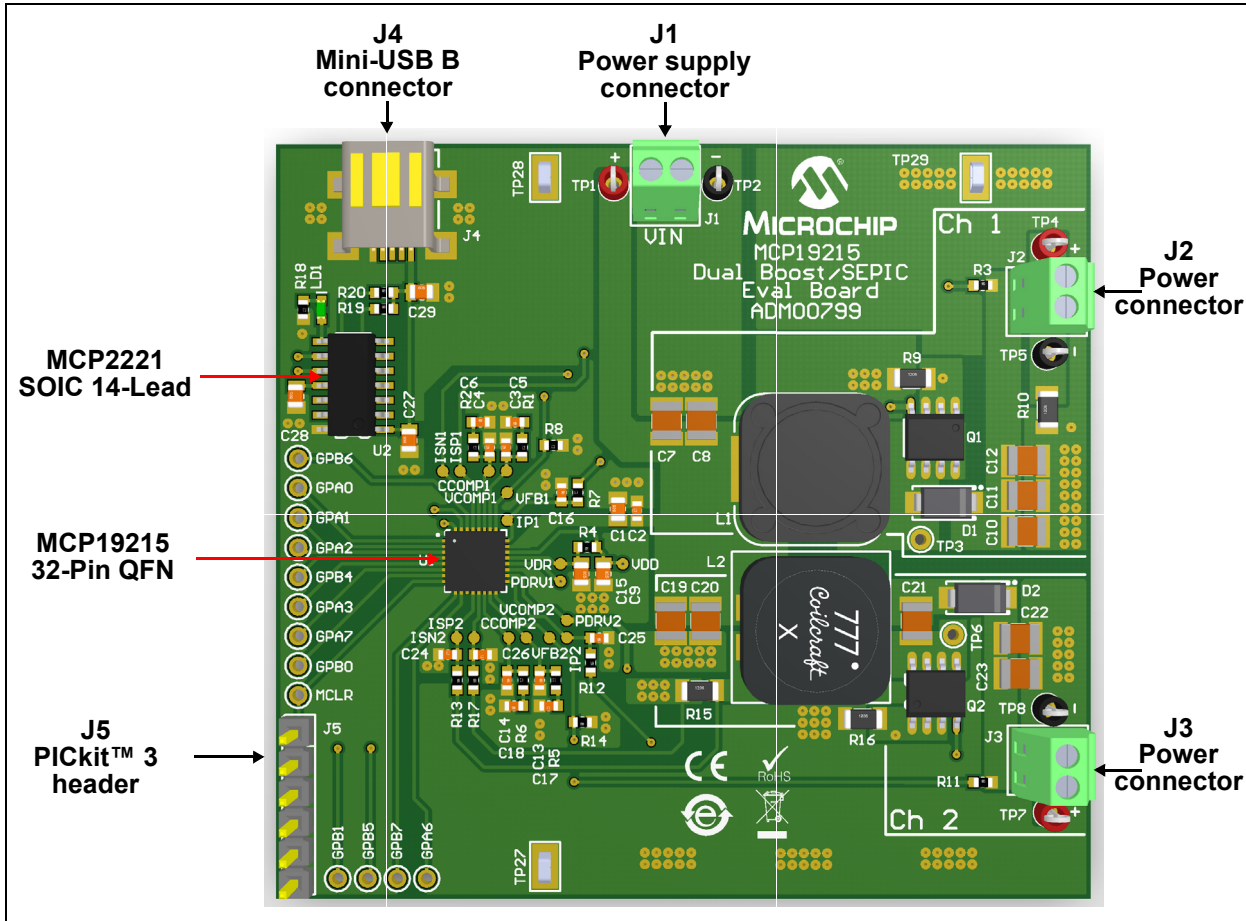

FIGURE 2-1: MCP19215 Dual Boost/SEPIC Evaluation Board – Top View.
Alternatively, users can program the MCP19215 using their own firmware, further tailoring it to the application, using the MPLAB[®] X Integrated Development Environment (IDE) and a PICkit[™] 3 Programmer/Debugger on the J5 Header (see Figure 2-1).
1. connect the electronic load to the J2 and/or J3 connector on the board by observing the polarity; the positive (+) and negative (-) connector pins are marked on the board silkscreen (refer to Figure 2-1).
2. connect the adjustable DC power supply to the J1 connector on the board by matching the polarity to the positive (+) and negative (-) connector pins marked on the board silkscreen (refer to Figure 2-1).
- by the user's own software that can be loaded into the MCP19215 by connecting J5 on the board to a PICKIT™3 or another suitable programming tool (see Figure 2-1).